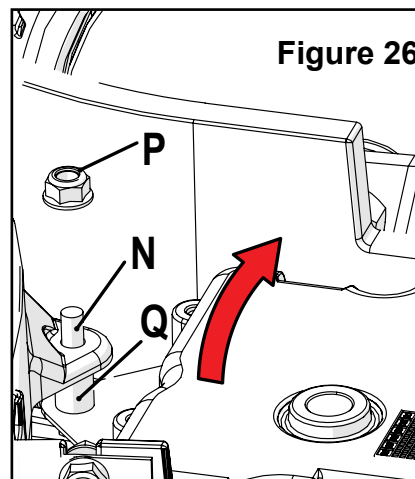

Figure 26
3. Remove the bolt **N** and nut **P** securing the transmission torque restraint to the mower deck. Remove the spacer **Q** between the torque restraint and the mower deck. **Figure 26**